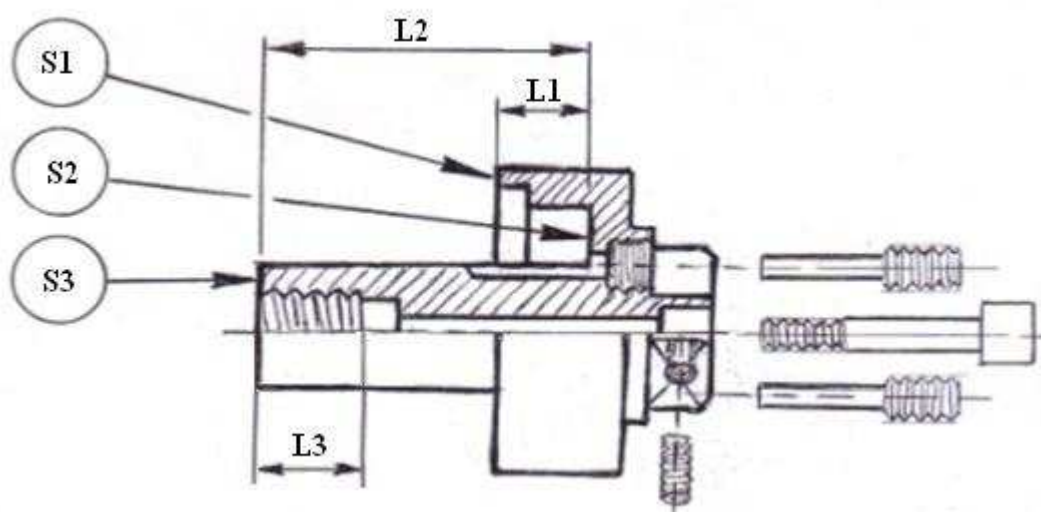

Fig. 9
9) **TUERCA ESPECIAL (FIG. 9) SOLO PARA LAS HÉLICES CON DISPOSITIVO ANTISHOCK - SPECIAL NUT (FIG.8) ONLY FOR MAX PROP WITH ANTI- SHOCK DEVICE**